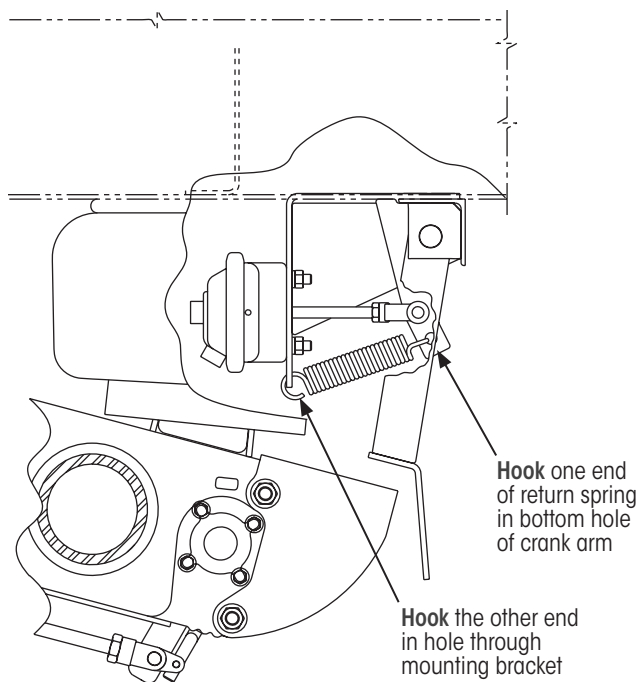

Figure 47: Spring installation details
1. **Hook** one end of the spring to the mounting bracket (Figure 47).